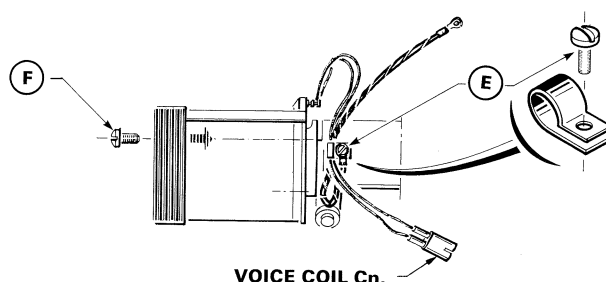

Figure 5.17
- Voice Coil Disassembly (See Figure 5.17)